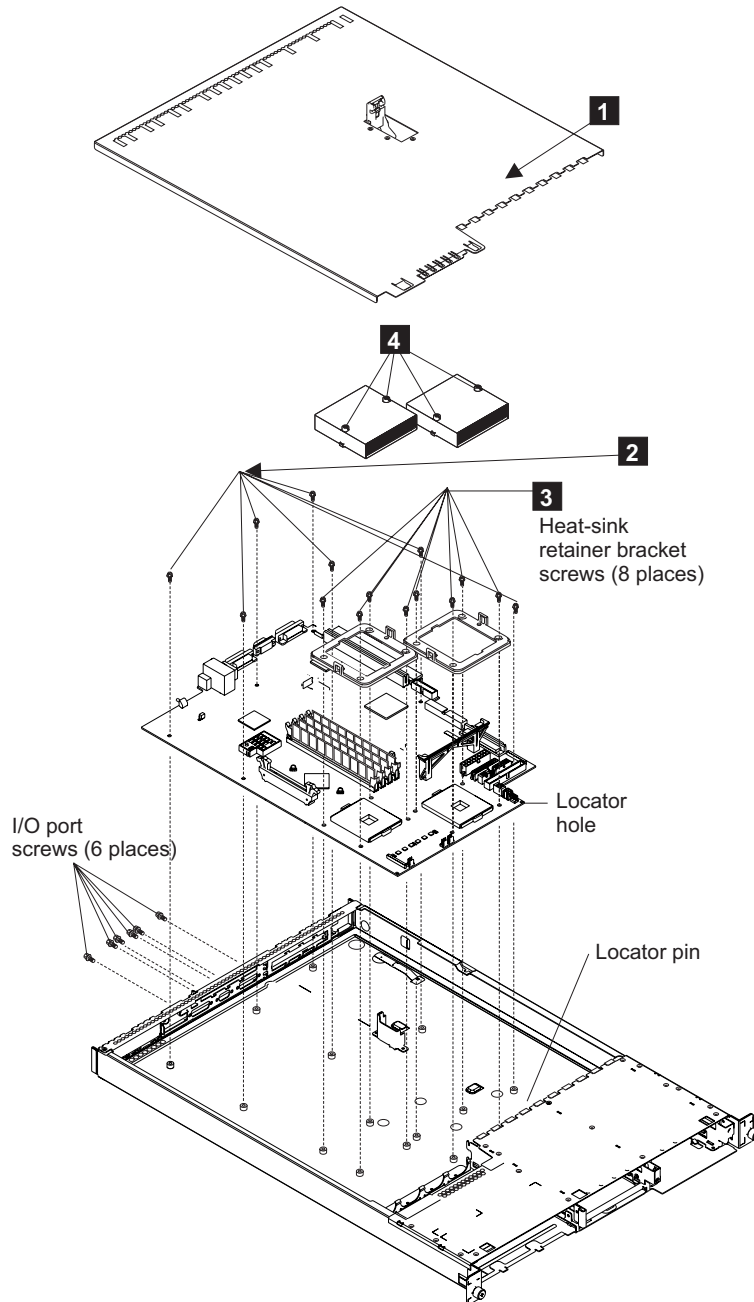

Figure 98. Replacing the system board
2. Replace the seven screws **2**. See Figure 98 on page 271.
5. Replace the screws from each of the heat sink retainer brackets **3**. See Figure 98 on page 271.